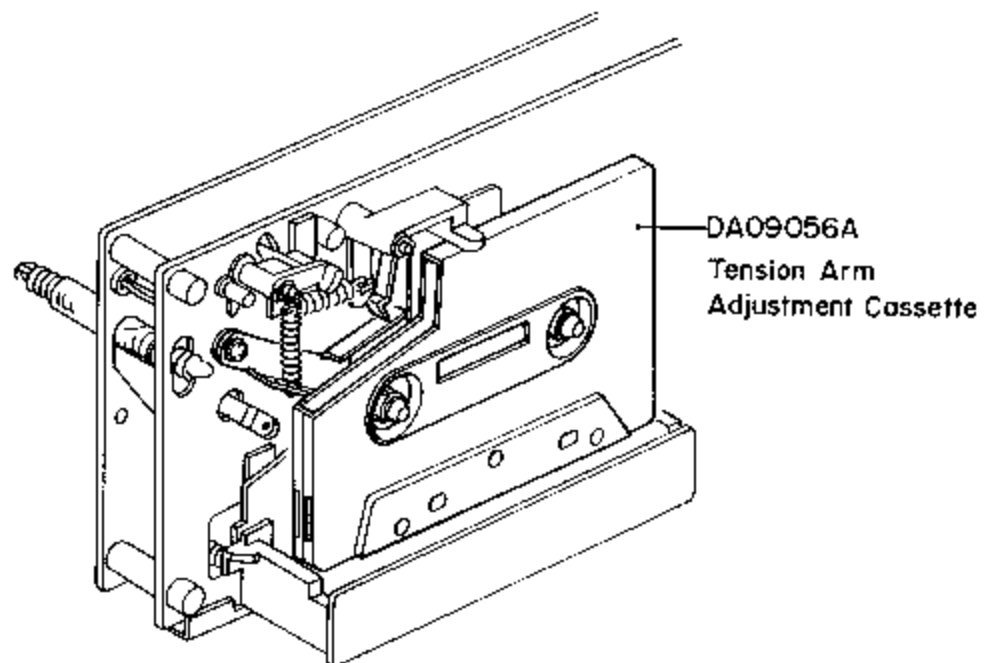
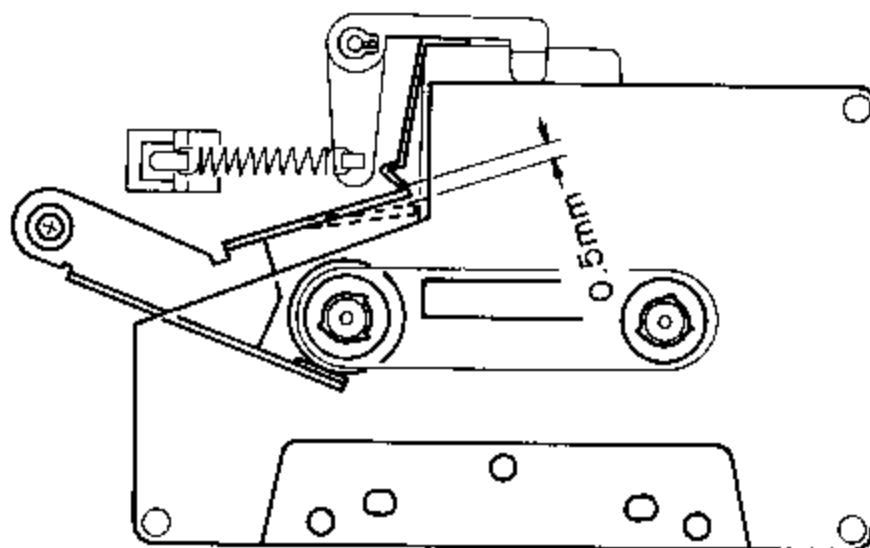

Fig. 4.13
Fig. 4.14
Refer to Figs. 4.13 - 4.16.
- (1) Load a Tension Arm Adjustment Cassette (DA09056A) referring to Fig. 4.13.
- (2) Set the N-660ZX in play mode.
- (3) Bend the Back Tension Arm with pliers so that the gap between the Cassette Holding Spring assembled with the Head Base Ass'y and the Back tension Arm becomes 0.5 mm as shown in Fig. 4.14. Do not bend the pointed end of the Back Tension Arm.
- (4) Set the N-660ZX in stop mode, and remove the Tension Arm Adjustment Cassette (DA09056A), then set the N-660ZX in cue mode.